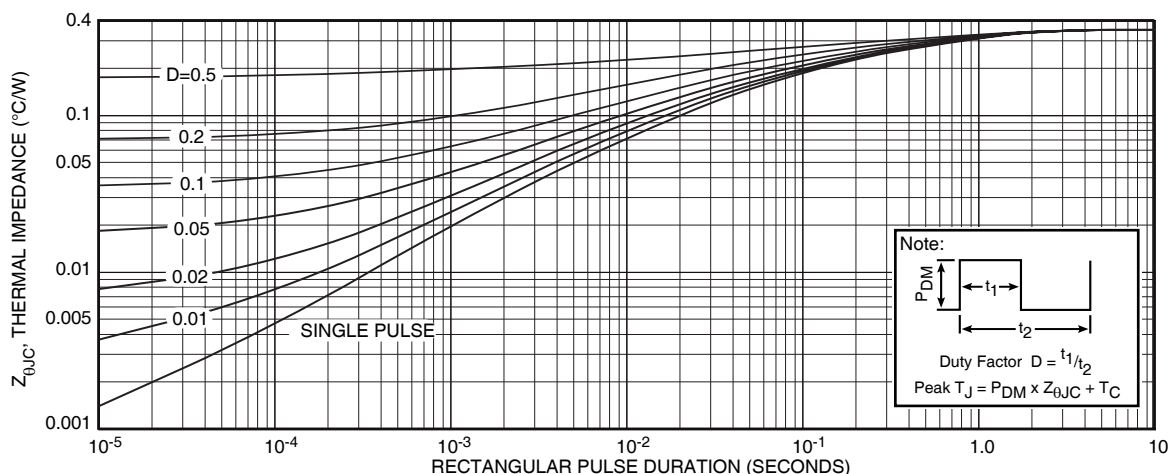

Figure 7, Maximum Effective Transient Thermal Impedance, Junction-to-Case vs. Pulse Duration
- The duty cycle past 100V must be reduced to insure power dissipation is within the limits of the device. Maximum pulse length should be 100mS or less. See figure 7.